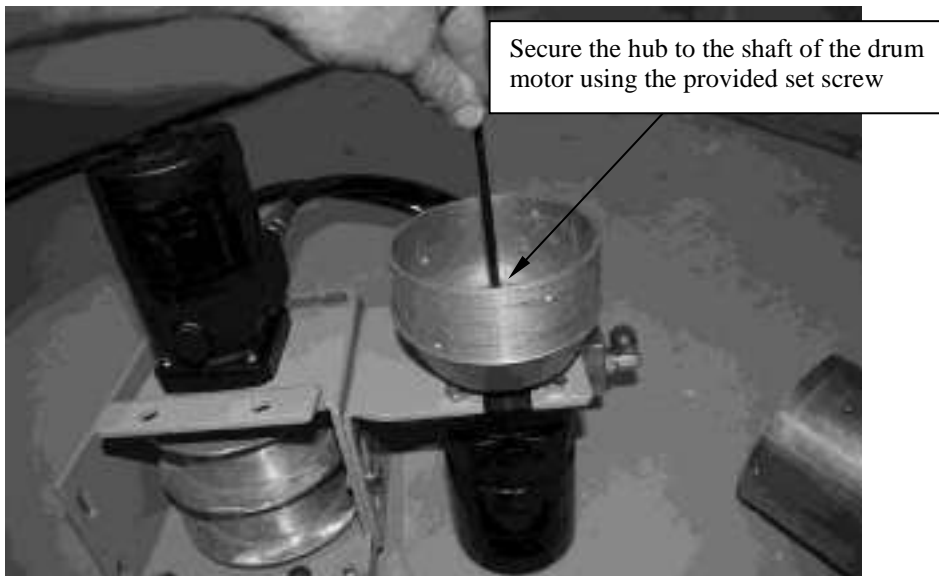

Fig 3
3. Remove the drum motor hub by loosening the six screws that hold it in place. Line up the notch in the hub with the drum motor shaft key and lightly tap the hub onto the shaft of the motor. Secure the hub onto motor shaft by threading in the provided 3/16" (5mm) hex-head screw. (Fig 3)